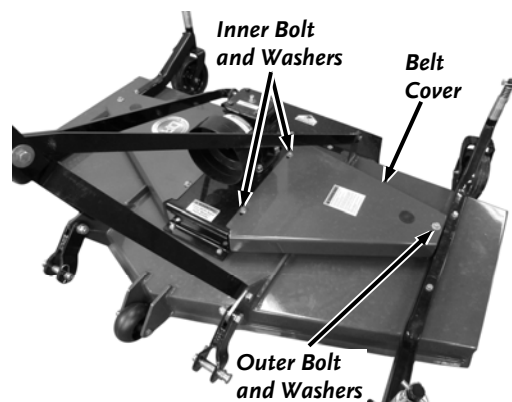

Figure 40
1. Remove the Bolt, Lock Washer and Plain Washer from the outer portion of the Belt Covers using a 16mm Wrench (**Figure 40**).